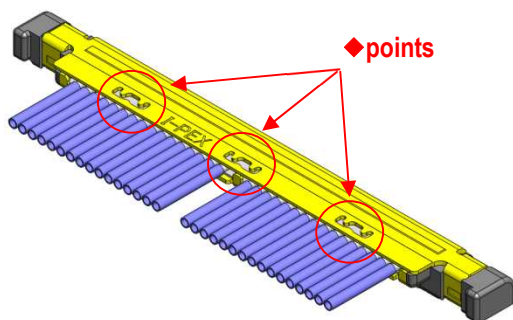

Fig. 7 Soldering of METAL COVER and Ground Bar
- ③ Solder holes of METAL COVER 3 positions and Ground Bar with the soldering iron. (Fig. 7 ◆ points)